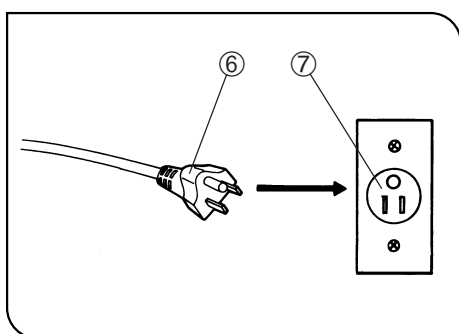

Fig. 51
3. Connect the power cord plug ⑥ to the AC receptacle ⑦. (Fig. 51)